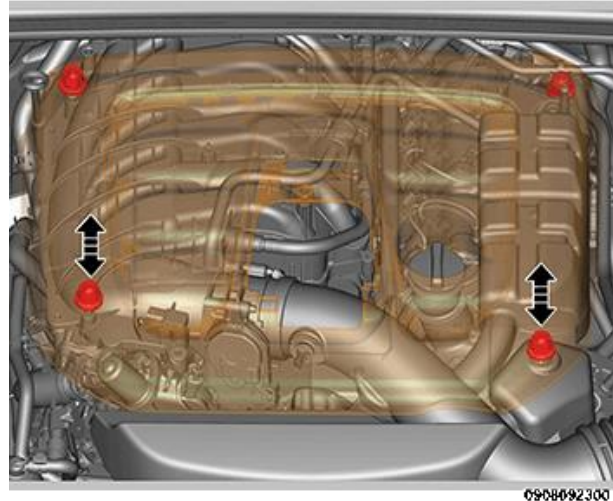

Figure 5 – Engine Cover Grommets (WD and WK shown, WL Similar)
6. Gently lift vertically to disengage the engine cover grommets (Figure 5).
9. Position the engine cover on the engine. Using your hands, gently push down until you feel the grommet and ball stud engage, ensuring grommet and ball stud retention (Figure 5).